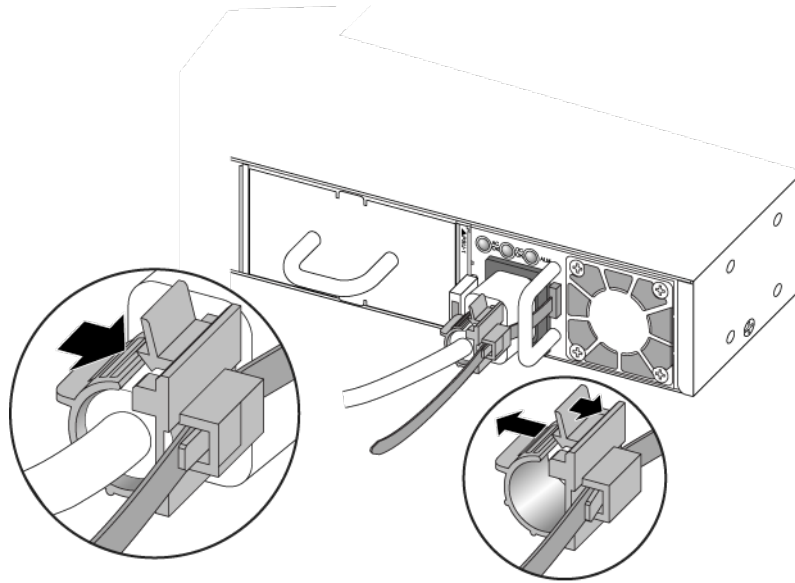

Figure 167: Attaching the Power Cord Retainer
- c Open the clip and slip it over the barrel of the connector (see Figure 167).